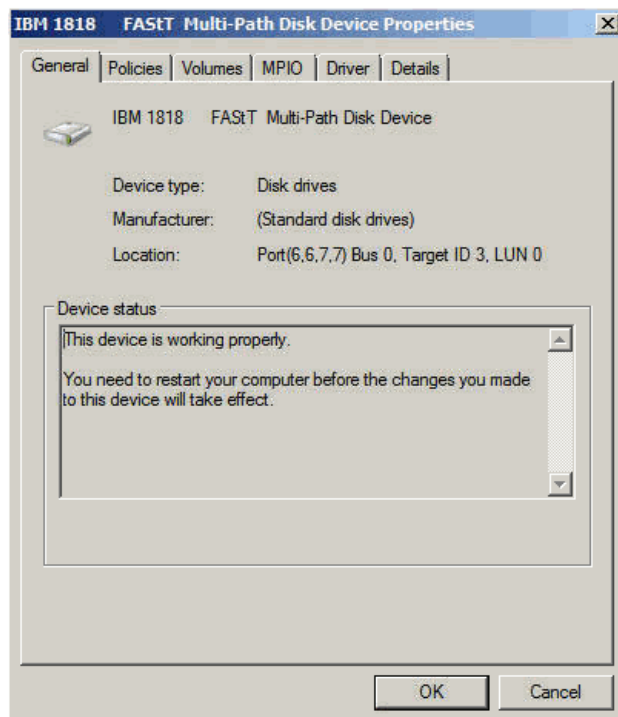

Figure 2-90 General Tab of the Disk Device
4. On the **General** tab, you can see that it is presented as LUN 0 and is connected by ports 6,6,7,7 on Bus 0. It tells us that it is seeing the LUN on both paths, as shown in Figure 2-90. The 6,6 is both paths to controller A, and the 7,7 is both paths to controller B.